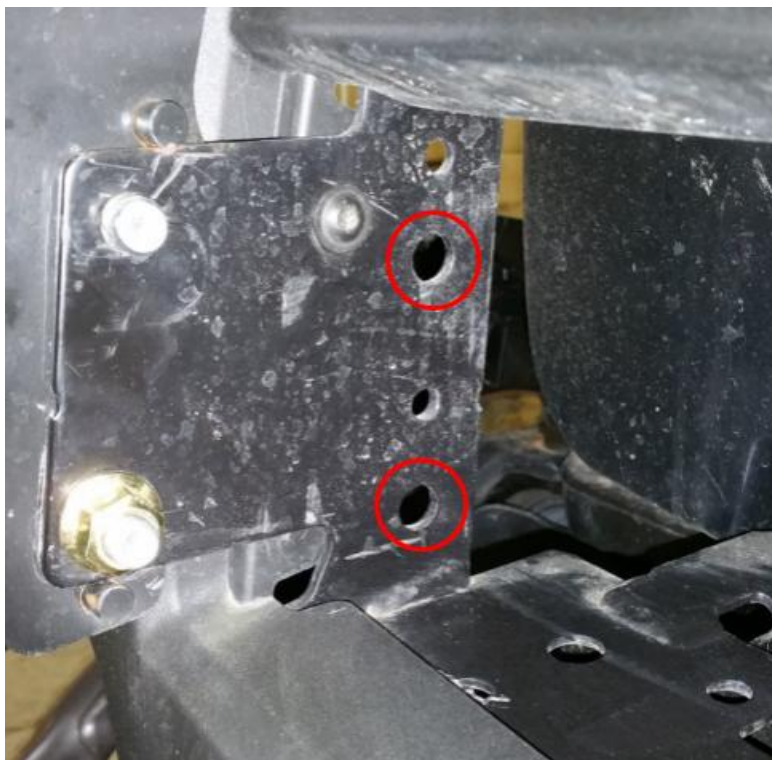

Figure 2
- 7) Install the four (4) supplied 3/8"-16 x 1" Serrated Flange Bolts (part # 3) through the holes in the bumper frame, shown in Figure 2, and into the MA11990 Mount Plate (part #1). Secure with the supplied 3/8"-16 Serrated Flange Nuts (part #2).